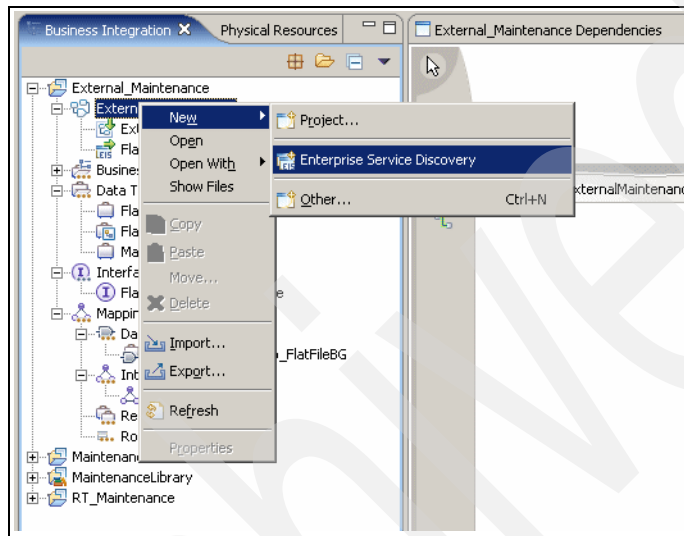

Figure 3-1 Enterprise Service discovery
1. Right-click the **ExternalContractor** module and click **New** → **Enterprise Service discovery** (Figure 3-1).